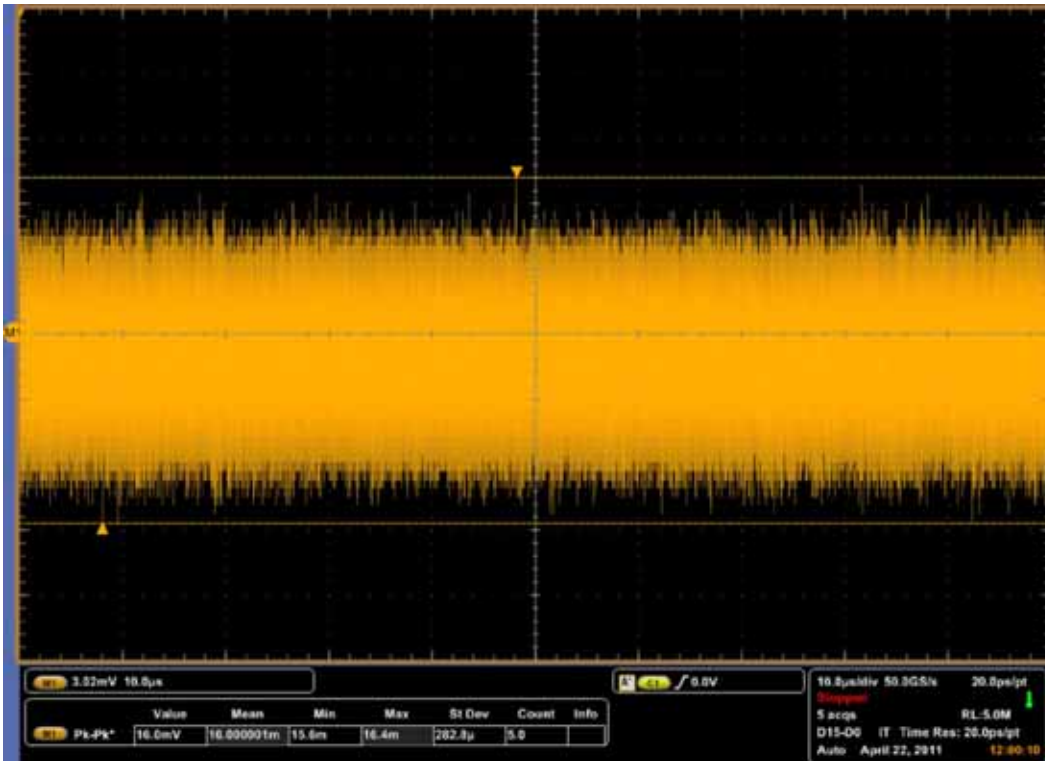

Figure 48: Measure Average Peak-to-Peak Voltage
- a. **Adjust** the Sine Interference amplitude on the BERTScope Analyzer to get a calibration value greater than or equal to the specification (≥ 15 mV for CEM). In Figure 48, the RT Scope measurement is 16 mV.